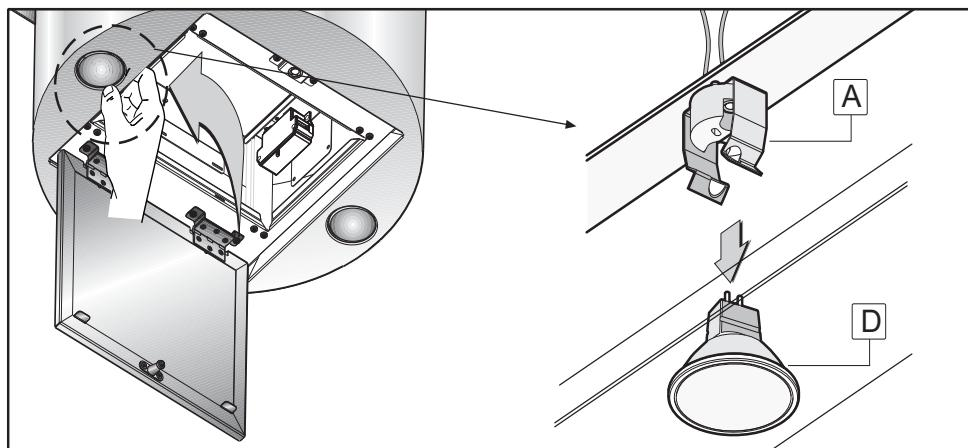

Fig.15
- **Replacing halogen light bulbs (Fig. 15).**
To replace the halogen lamps **B**, from the inside of the cooker hood press downwards with two fingers as shown in Fig. 15.